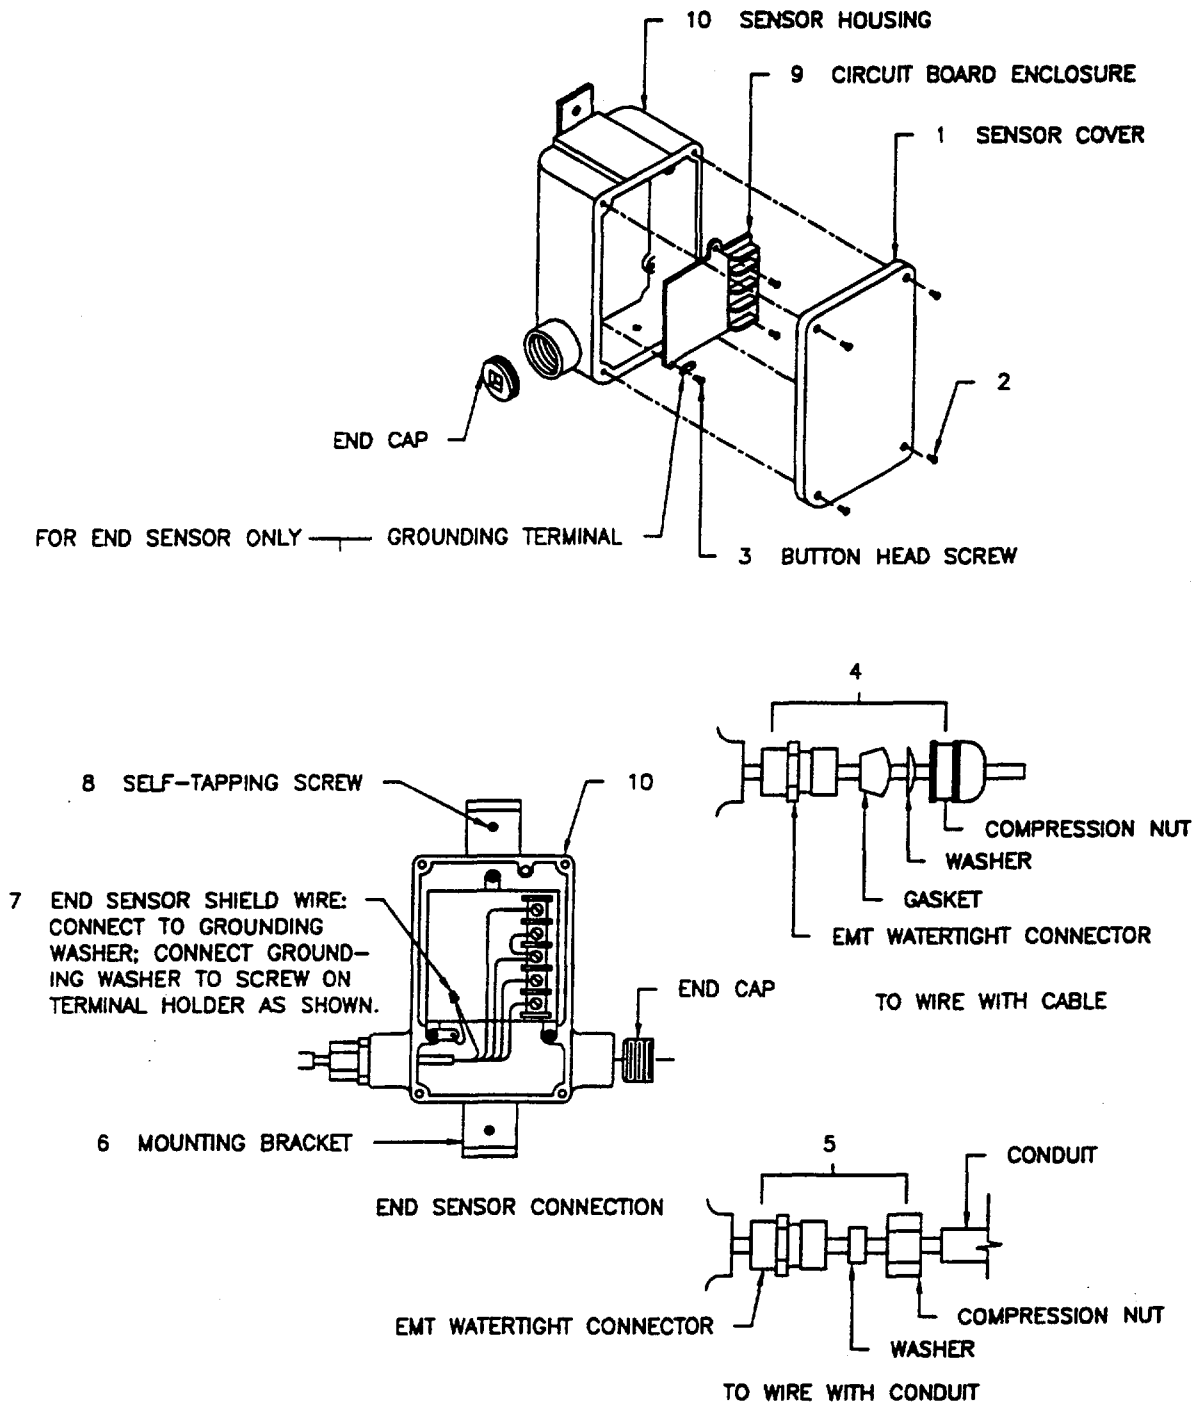

Figure 3-66. Removal and Replacement of Fence Mounted Vibration Sensor Assembly
**3-118. REPLACE FENCE-MOUNTED VIBRATION SENSOR.** (Figure 3-66).